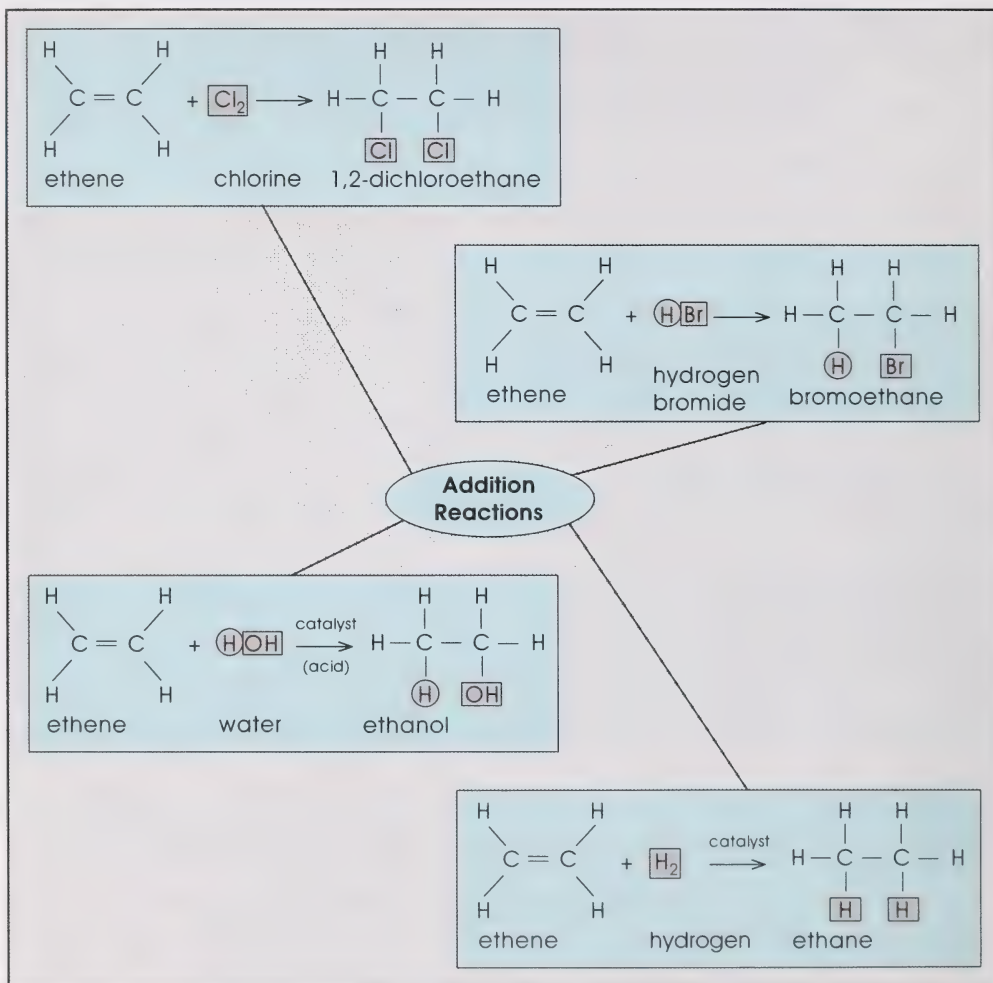

FIGURE 7.3: Addition Reactions
Figure 7.3 is a summary of several possible addition reactions.
Please note that in Figure 7.3 alkyne examples could have been used as well. Ethene was used only for simplicity.
13. Catalysts were used in two of the reactions in Figure 7.3. What is a catalyst?